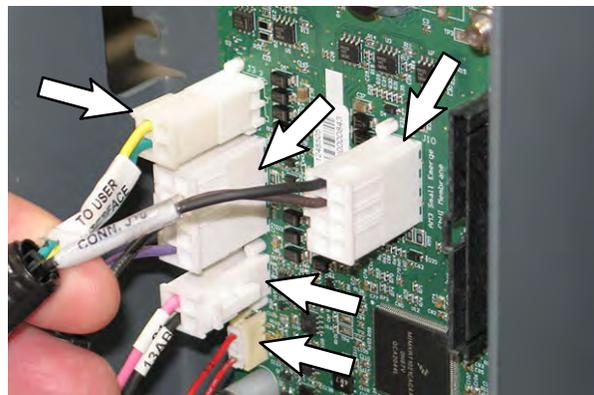

**FIG. 18**
1. Remove the board mounting bracket from the board mounting plate. Set the board mounting bracket and mounting hardware aside. (Fig. 19/Fig. 18)
3. Remove the communication board from the board mounting plate. Set all hardware aside. Discard the removed communication board. (Fig. 18)
4. Install the new communication board (1) onto the board mounting plate. (Fig. 18)
7. Reinstall the board bracket onto the board mounting plate. (Fig. 18/Fig. 19)
10. Update firmware/configure the communication board (1). See UPDATE FIRMWARE/CONFIGURE THE COMMUNICATION BOARD for updating/configuration procedure.